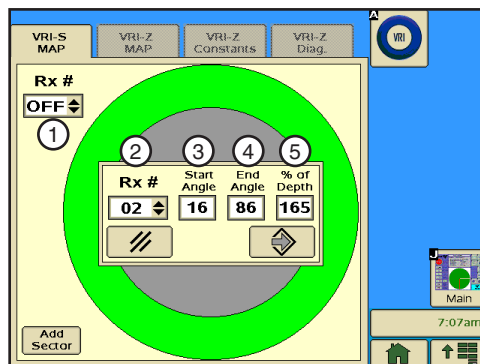

Figure 50-2 1. VRI Speed OFF
3. Select the **Rx#** field. Refer to Figure 50-2.